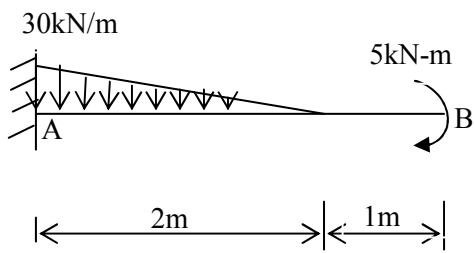

Fig. 6 Q. 5 (a) OR
- Q.5 (a)** Draw shear force and bending moment diagrams for the beam shown in Fig.6. 07